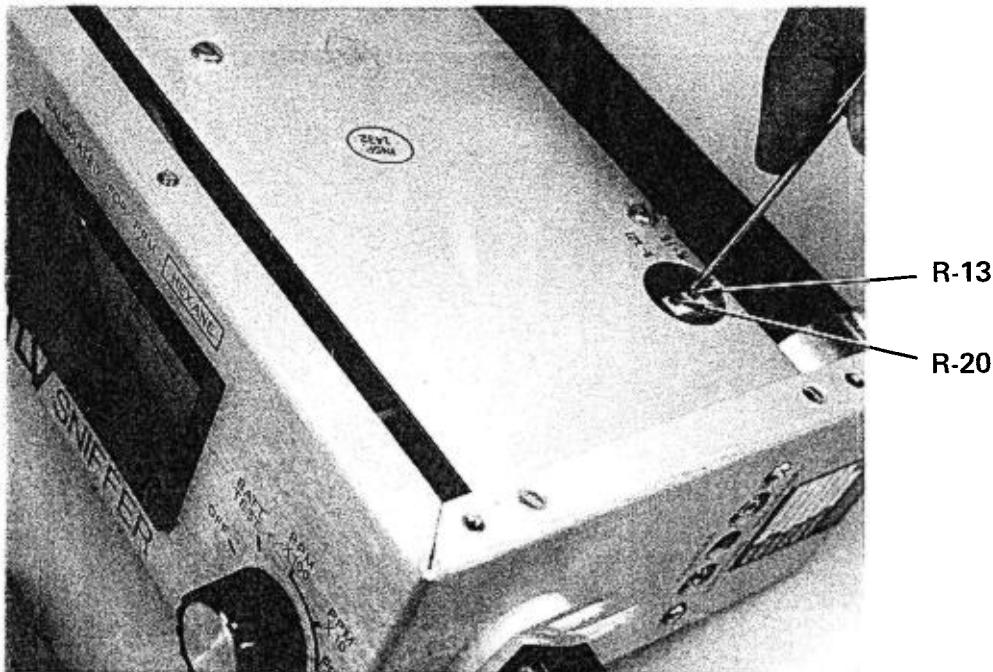
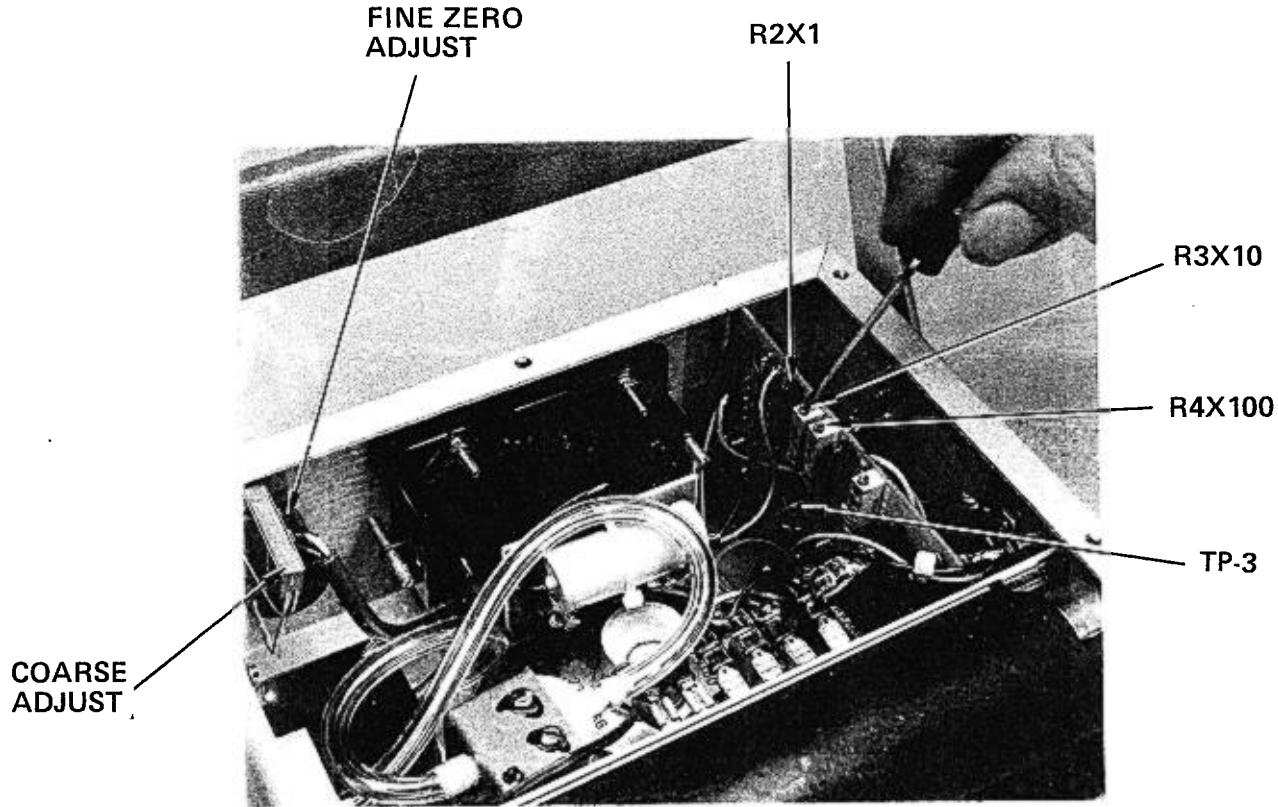

Figure 2-3. Locating and adjusting R-13 on PPMX100 position for meter pointer indication of scale zero.
Figure 2-4. Locating and Adjusting R-3 for certified Gas Indication of 500 ppm on the meter.
Refer to Figure 2-4 locating TP-3 and connect a Voltmeter between TP-3 (+) and ground (-), check for 6VDC. If not, refer to Figure 2-3 locating R-20 and adjust for 6VDC $\pm .01$ VDC.
- 4) After allowing for five-minute warm-up, turn MODE SELECTOR switch to PPMX100 position and adjust R-13 (see Figure 2-3) for meter pointer indication of scale zero.
- 6) Turn MODE SELECTOR switch to PPMX10 position. Reconnect Gas Transfer Assembly to TLV Sample-In (Inlet) fitting. Open Regulator Valve (clockwise) and adjust for Flowmeter indications of (1) cfh to ensure adequate pump flow. Allow one minute for meter pointer to achieve maximum indication (refer to Figure 2-4), adjust R-3 the X10 Span Adjuster until meter pointer indicates mid-scale (50) or 500 ppm. Remove gas, close Regulator Valve (fully CCW) and allow about two minutes for meter pointer to return to zero.